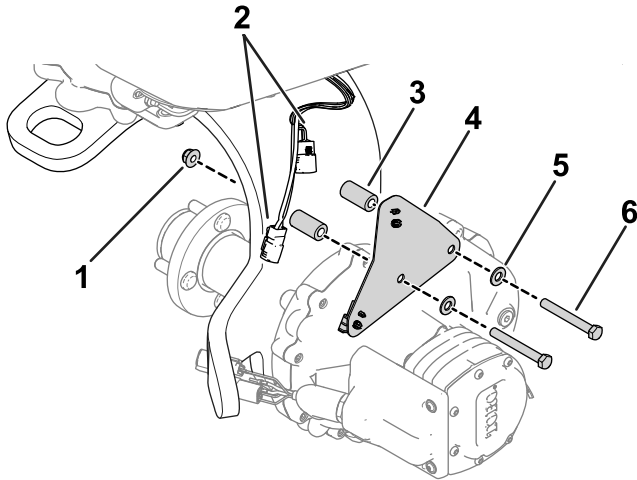

Figure 2
2. Remove the hardware that secures the harness bracket to the caster fork (Figure 2). Retain the hardware.